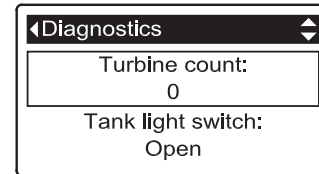

FIG. 138
2. Press the DOWN (▼) button to scroll through the list until **Turbine Count** is displayed (See Figure 138).